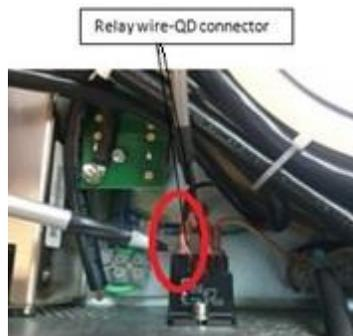

Figure 113: Relay Power Wires
8. Connect the *relay power wires* (positive and negative) from the relay in accordance with the latest revision of the *Assembly Procedure for ExactVu Power Supply Box Sub-Assembly (PN 6062)* from Exact Imaging (refer to Figure 113).